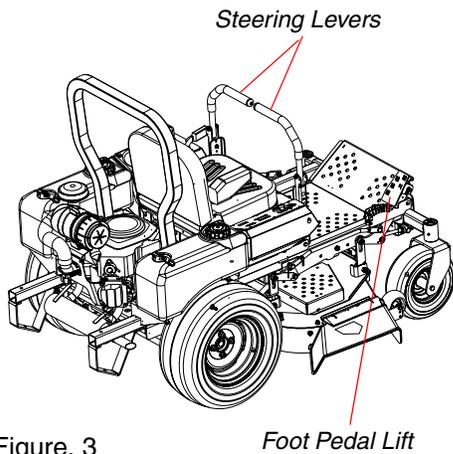

Figure. 3 *Foot Pedal Lift*
3. **Left and Right Steering Levers:** (See Figure 3.) These hinged levers open out to the side in any position to permit the operator to be seated or to leave the mower’s seat. The operator, when seated, can pull the levers up to the operating position, a comfortable forearm’s length away. These levers control all of the movements of the mower. Pushing both levers forward causes the mower to move forward. Pulling both levers back causes the mower to move backward. Pushing one lever ahead of the other lever causes the traction wheel on the side where the lever is ahead to rotate faster than the other traction
6. **Foot Pedal Lift:** (See Figure 3.) Located on the panel in front of the seat. Raise the mowing deck to the transport position, by pushing the upper part of the pedal. To lower the mowing deck, push on the upper part of the pedal and lower it to the desired position.